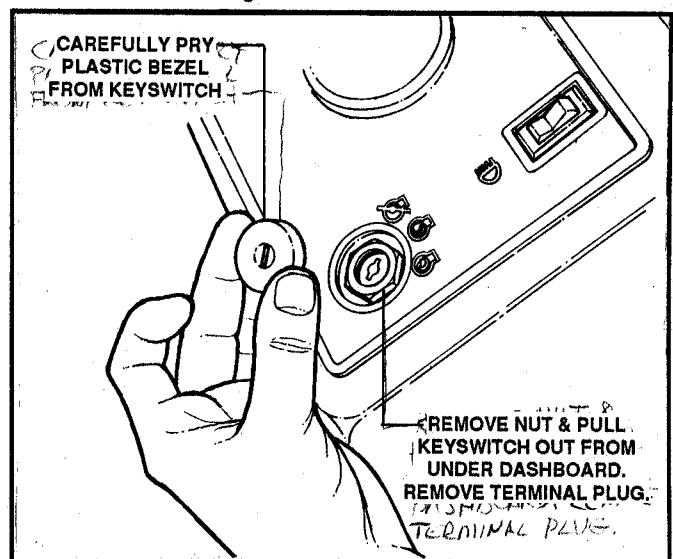

FIGURE 6.5
3. Remove mounting nut and washer from Key Switch. Replace in reverse order. See Figure 6.5.